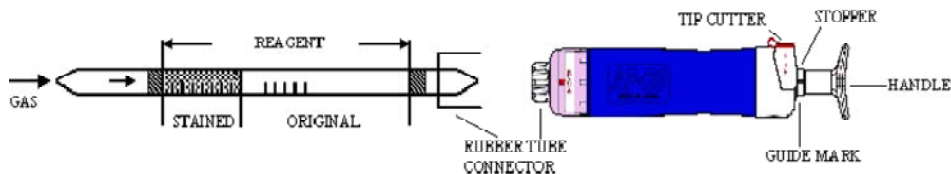

Fig.1
- ② Insert the detector tube into aspirating pump securely as shown in Fig.1. (Arrow mark shall point to the pump.)
- ③ Align the guide marks on the shaft and stopper of the aspirating pump.
- ④ Pull the pump handle at full stroke until it locks and wait for 20 seconds or until the completion of sampling is confirmed with the flow indicator of the pump (See descriptions about the flow indicator in the instructions of the pump).
- ⑤ On completion of sampling, read the scale at the maximum point of the stained layer.